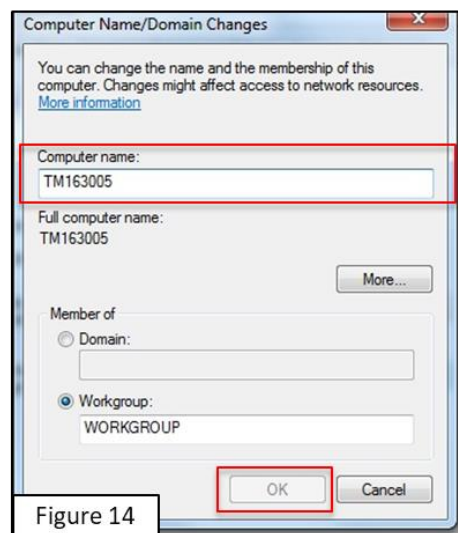

Figure 14
- Input the name below the **Stick** QR code in the field of computer name and click **OK** (as shown in Figure 14).